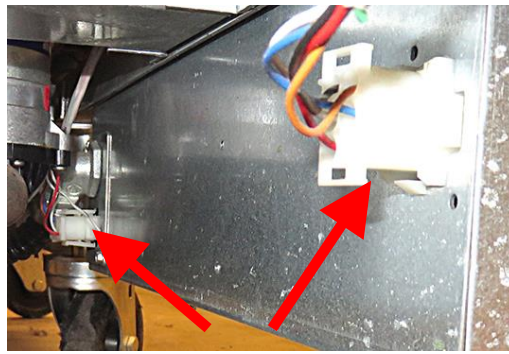

Figure 4
6. Disconnect all connectors, on the front of the transformer box (or the left box on 3 battery or larger fryers, as viewed from the rear) (see Figure 4).